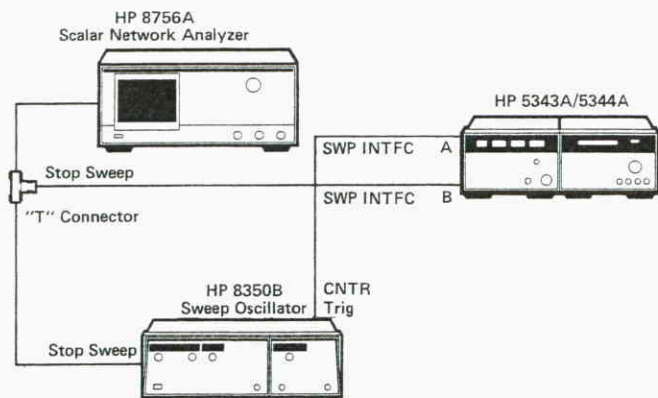

Figure 4. Connections for counting sweeper markers using sweeper interface.
In LK/R mode with the HP 5344S opt. 43 (HP 5343A counter) the sweeper markers can be counted very accurately using the sweeper interface function of the HP 5343A. Note the sweeper interface cables A and B shown in figure 4. These outputs are available only from the HP 5343A counter and enable the marker count function. They are not necessary for normal operation. This function can be used whether or not the 8756 System Interface is operating, and can operate in either normal or subharmonic/offset locking. We now carry our example further to include counted markers.
1. Connect the sweeper interface cables as shown in figure 4.